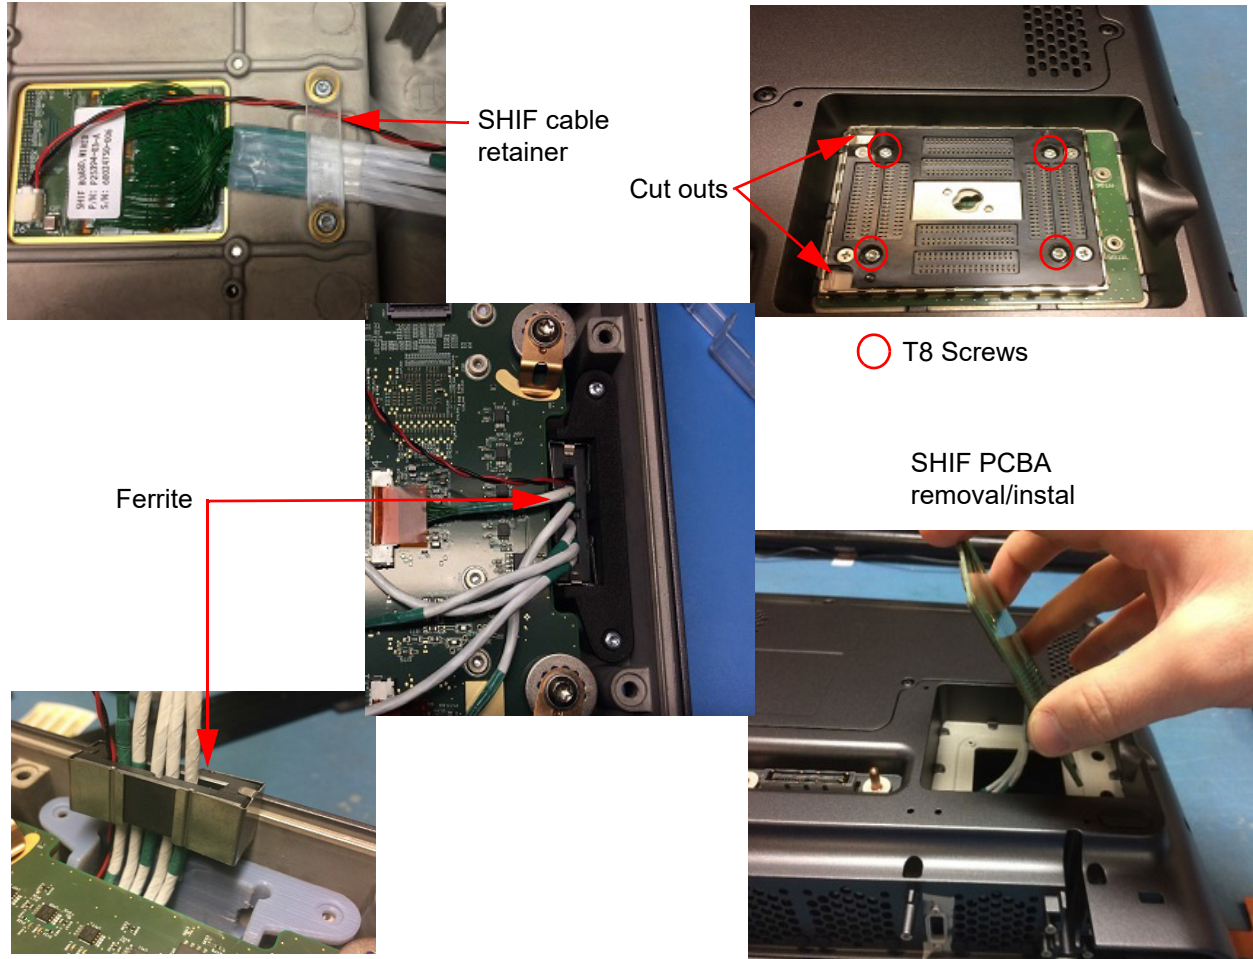

Figure 6.26 SHIF PCBA
- 2 Pull up on the Ferrite and remove it from the SHIF connectors by feeding them through one by one per Figure 6.26 on page 66.
- 2 Use a T8 bit to remove the 4 screws securing the Interposer Assembly per Figure 6.26 on page 66.
- 1 Install the Interposer Assembly with the cut outs facing as shown and align guide pins into holes per Figure 6.26 on page 66.